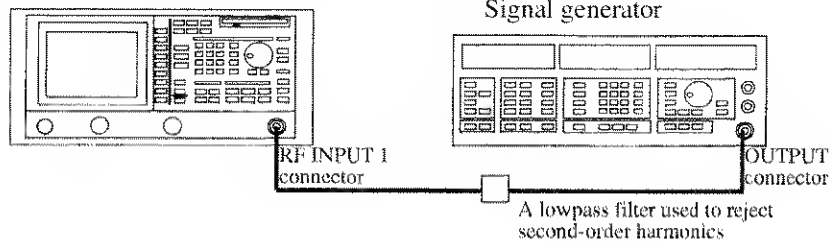

Figure 2-36 Setup for Measuring Harmonic Distortion
1. Connect the signal generator as shown in Figure 2-36.